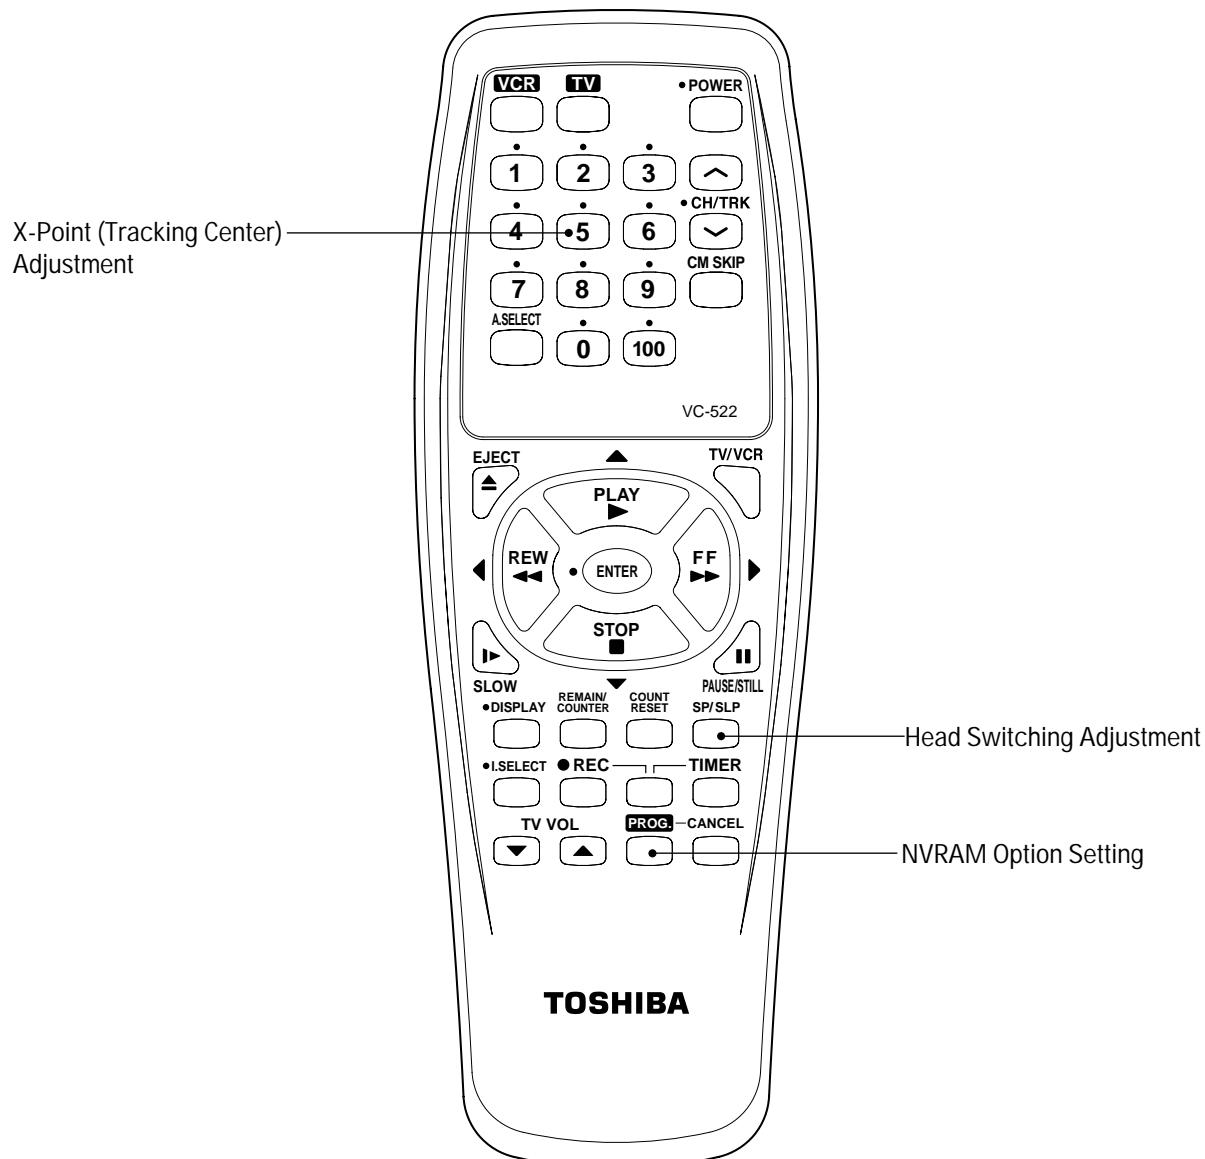

Fig. 5-1
- 3) Press the “5” button of remote control then adjustment is operated automatically. (See Fig. 5-1)